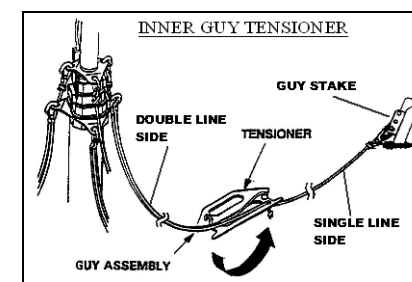
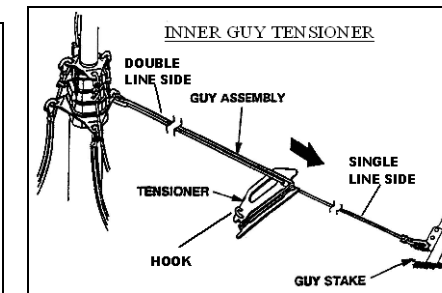

Figure 10
Figure 11
14. Unwrap the three inner guy tensioners and attach the black snap hooks to the lower (6") guy plate (black) and the green snap hooks to the lowest hole on the inner guy stakes. Note that the snap hooks should be fastened from underneath the guy plate. See Fig. 8 and Fig. 10.
17. Remove the slack in one of the inner guy tensioners by winding the trailing end of the guy line around the tensioner. See Fig. 10.
18. Tension the line by sliding the tensioner toward the guy stake and lock it by placing the guy tensioner hook over the double guy lines. See Fig. 11.
5. After the mast is fully nested, hold the mast vertical and release the three inner guy tensioners to slacken the lower guy lines. (Ref. Fig. 10 and Fig. 11)